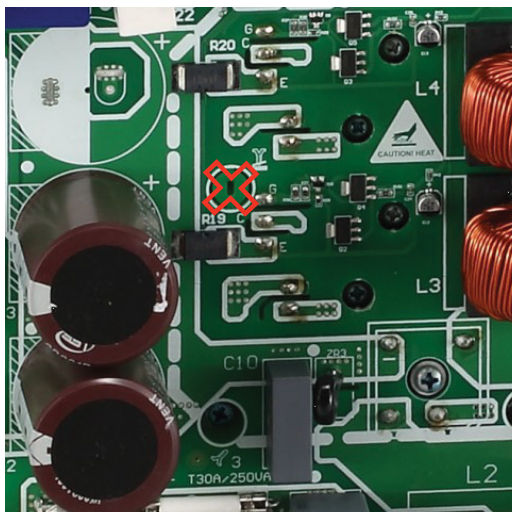

Figure 2
6. Insert a small flathead screwdriver in the vertical slot at the location marked with "X" in Figure 2. Twist the screwdriver to remove the circle piece from the board.